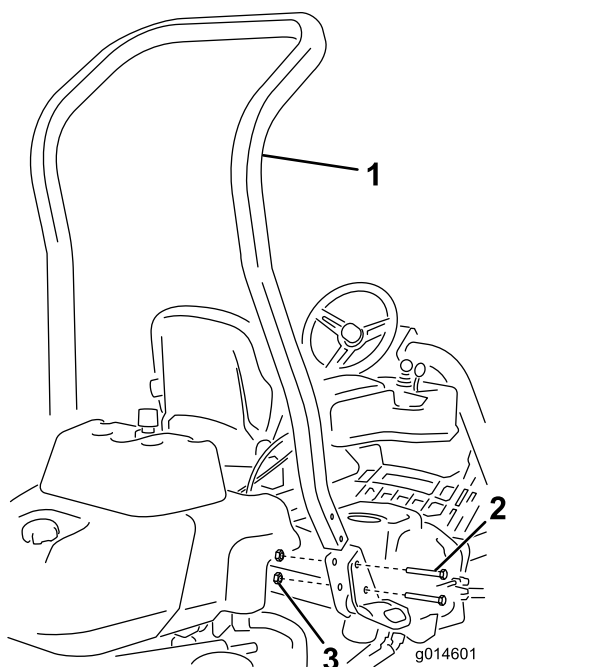

Figure 3
3. Install the roll bar into the pockets on each side of the machine, using 4 bolts (1/2 x 3-3/4 inches) and 4 flange-nuts (1/2 inch) as shown in Figure 3.